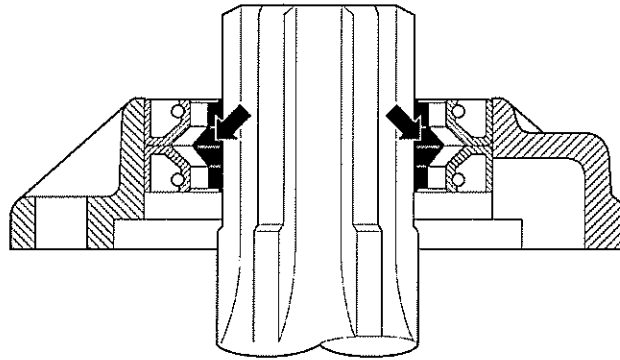

Fig 6 Transfer gearbox drive shaft flange cover
- 9.1 Press in oil seals until outer seal is flush with outer casing. Fill hollow space between both sealing lips with standard grease (see Fig 6).